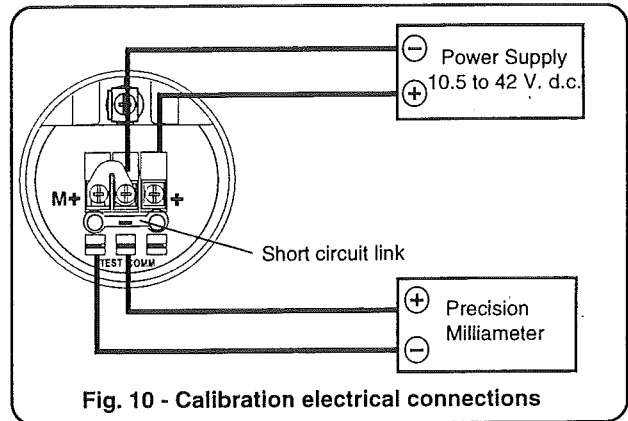

Fig. 10 - Calibration electrical connections
- v) make the electrical connections, as indicated in Fig. 10. Connect a precision milliammeter as shown and **remove the short circuit link**.